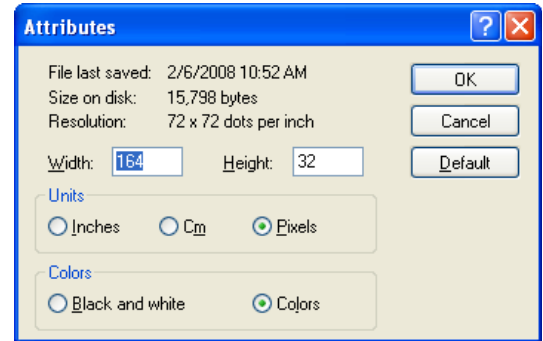

Figure 4: Bitmap Properties
- Bitmap File (.bmp) created using the parameters shown in **Figure 4**
10. In the *Send File* window, click **Browse** and navigate to the bitmap image file created with the parameters shown in **Figure 4**, select **Xmodem** as the *Protocol*, and click **Send** to initiate the file transfer.
8. Navigate to the bitmap image file created with the parameters shown in **Figure 4** and click **Open**.